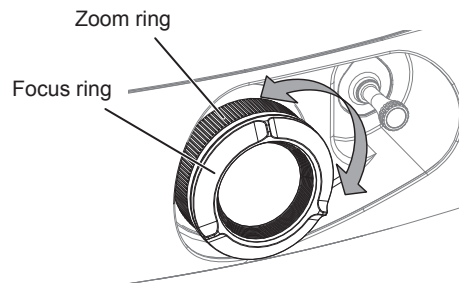

Fig. 2
- 5) **Adjust the zoom and focus. (Fig. 2)**